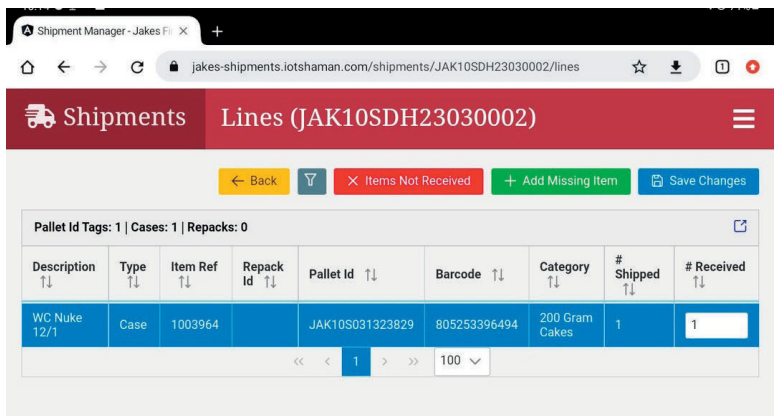

Figure 11
- h. If item not received, select the item line which will highlight it in blue and click on ITEMS NOT RECEIVED (Figure 11)